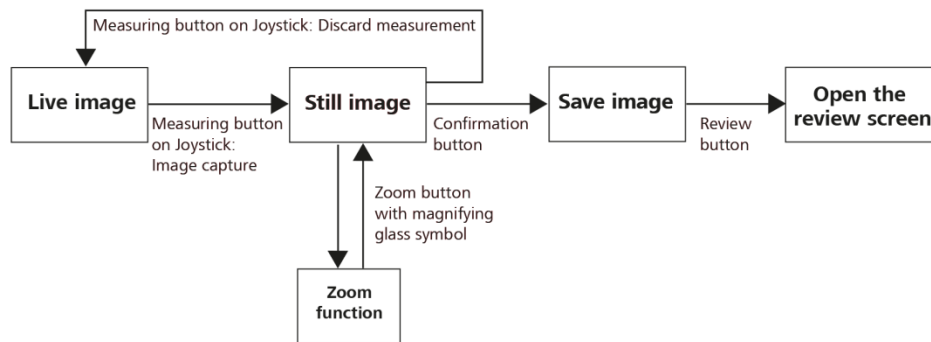

Fig. 44 Main control functions in Image mode
The following chart shows the **main control functions** for capturing images of the eye with this device (Fig. 44)
- After you have captured the image and approved it, you can tap the **Confirmation** button (4, Fig. 46). The image will be stored together with the illumination parameters set for the image (see also Fig. 44).